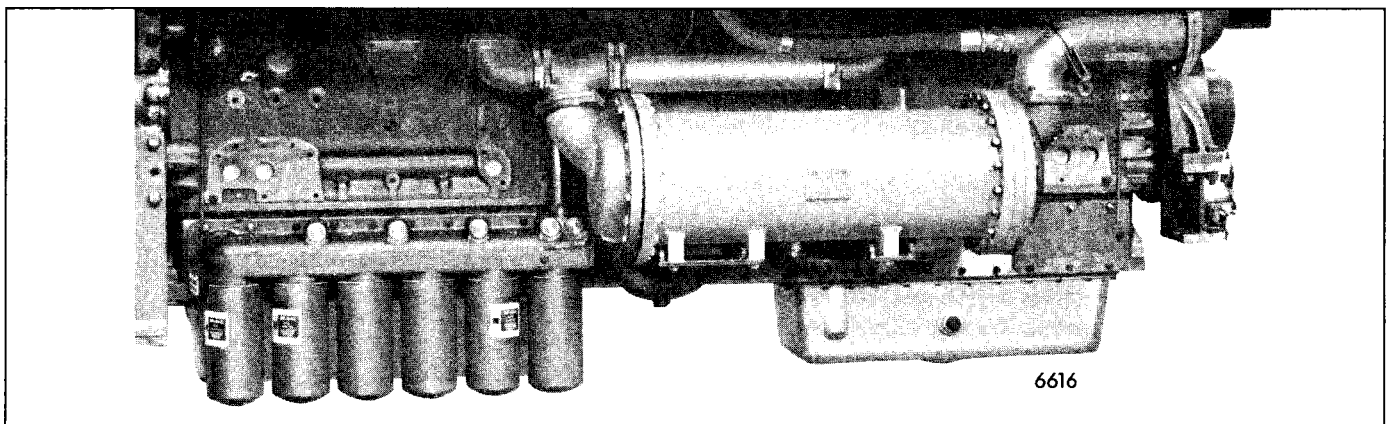

Fig. 6 - Tube and Shell Oil Cooler Mounting (16V-149 Engine Shown)
• Tube type oil cooler assemblies (Fig. 6) are installed on certain 8 V, 12V, and 16V-149 turbocharged-intercooled engines.